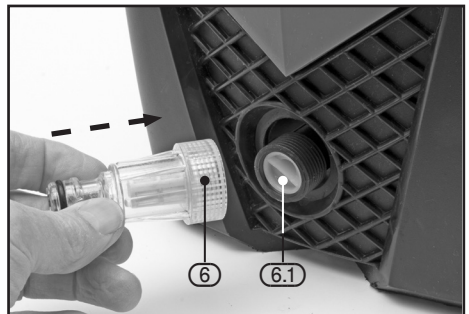
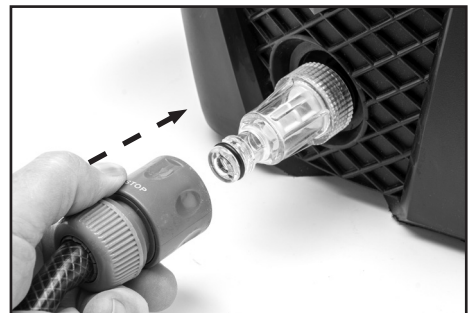

FIG.11
FIG.12
8.5 CONNECTING THE WATER SUPPLY – FIGS.11 – 12
- Screw the supplied water inlet adaptor (6) to the water inlet connection (6.1) taking care not to cross the threads.
- To connect the pressure washer to the water supply, a push fit hose connector will be required (FIG.12). Ensure the connector is correctly fitted to the hose and that a 'click' is heard when attaching to the machine.